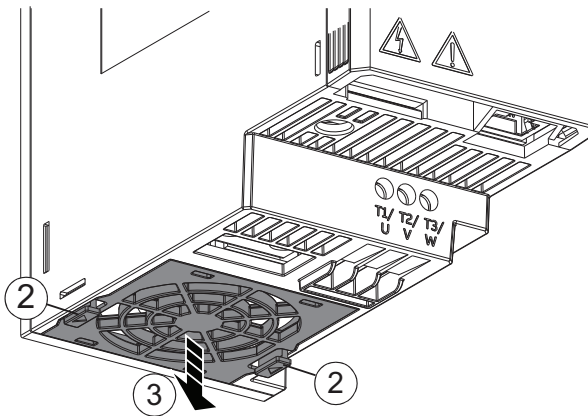

Fig. 66 — Lifting the Fan Cover out of Drive
3. Carefully lift the fan cover out of the drive. Note that the fan cover holds the cooling fan. See Fig. 66.